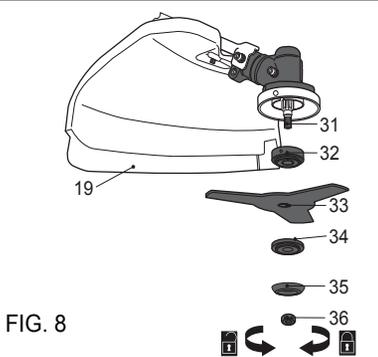

FIG. 8
6. Place the locking flange (34) and the washer onto the cutter blade (33).
7. Secure the cutter blade (33) with the nut (36) (Fig. 8).